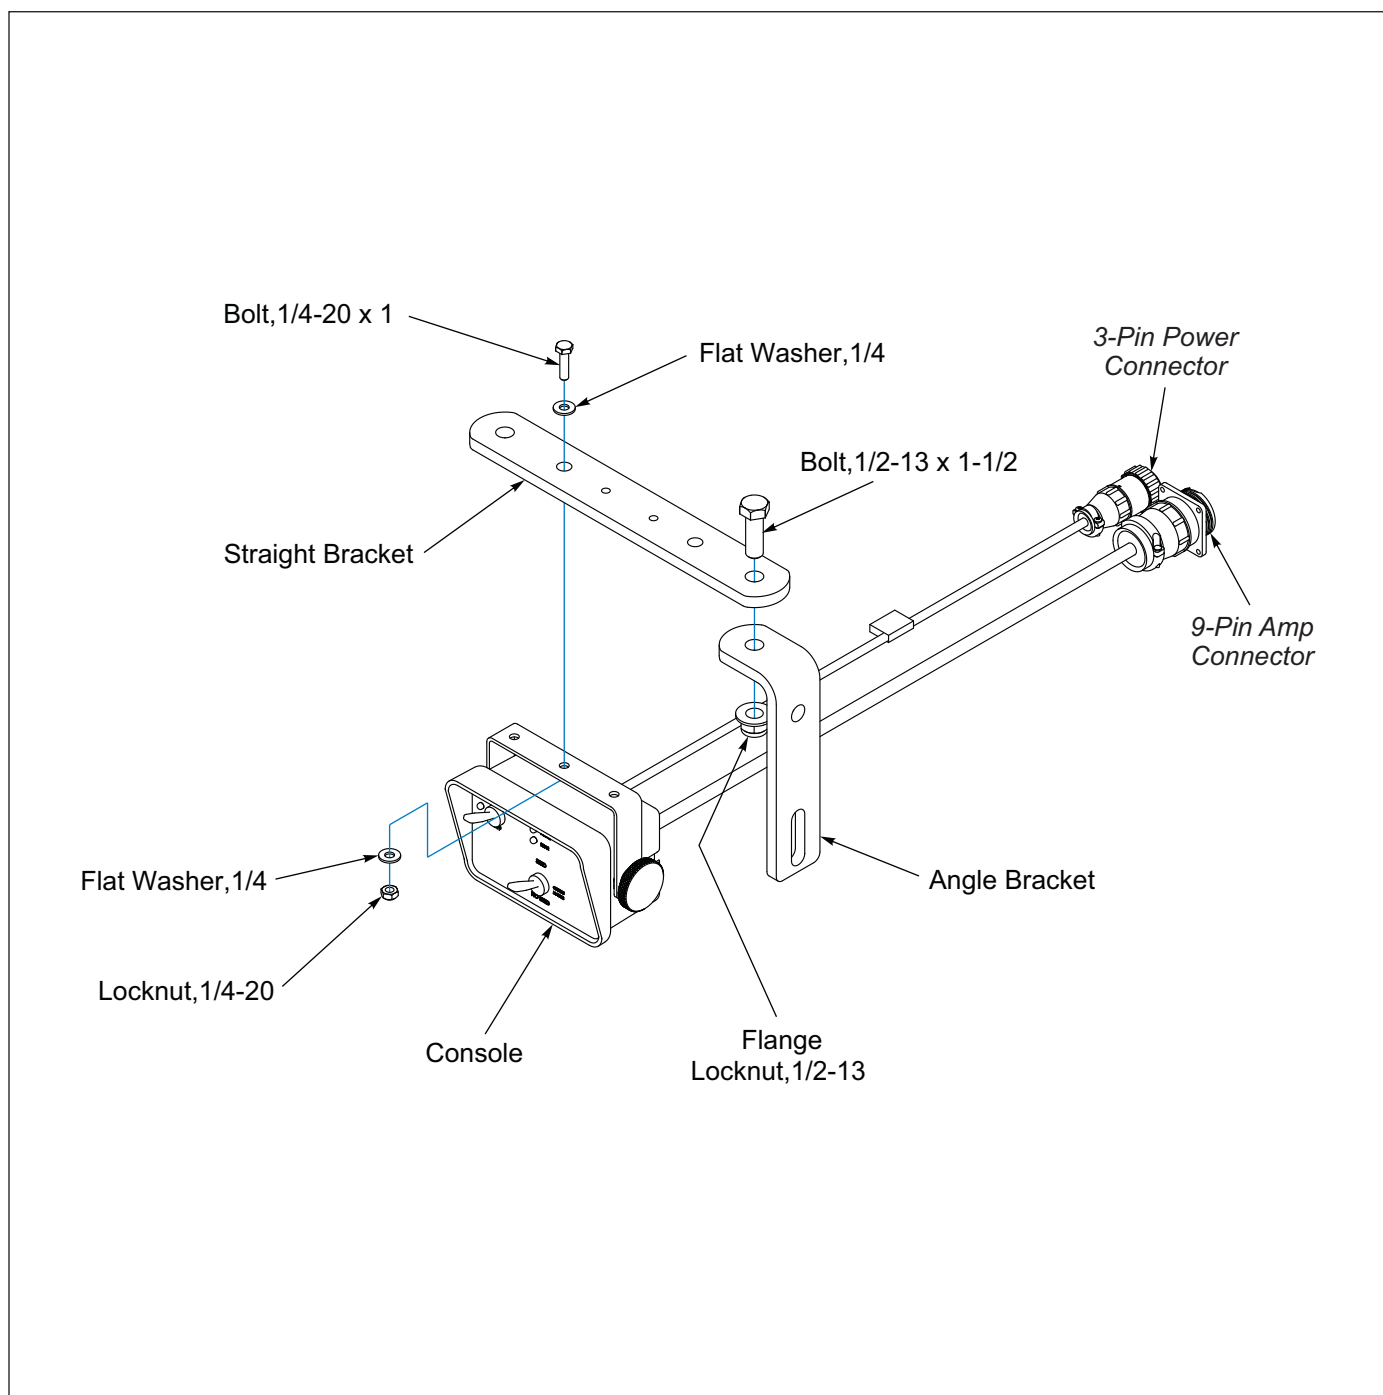

Figure 2-44: Console w/Clutch Control Tractor Installation - Optional
Mount Console with Clutch Control on Tractor. **See Figure 2-44.**
1. Mount Angle Bracket onto Tractor where convenient for the operator. **See Figure 2-44.**